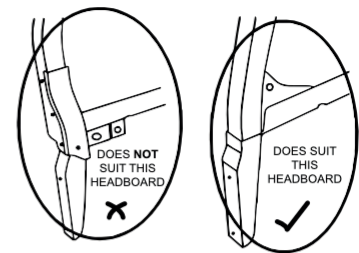

Figure F1
- Measure and drill remaining 5 holes at 262 mm centers and 9mm up from the bottom edge of the rope track as shown in (Figure F1).